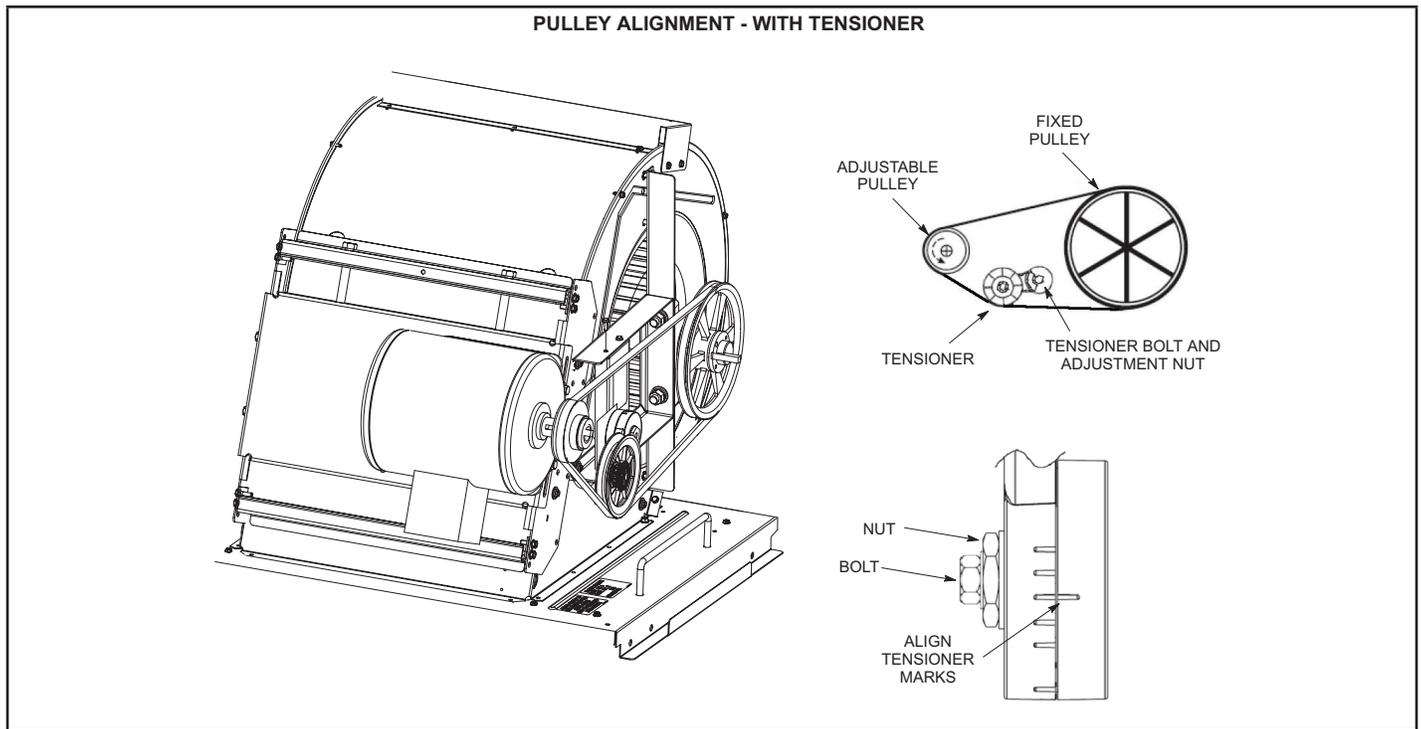

FIGURE 12
- 1 - Loosen the bolt in the center of the tensioner. See FIGURE 12.
- 3 - Using a 15/16" wrench, turn the tensioner nut until marks align as shown in FIGURE 12.